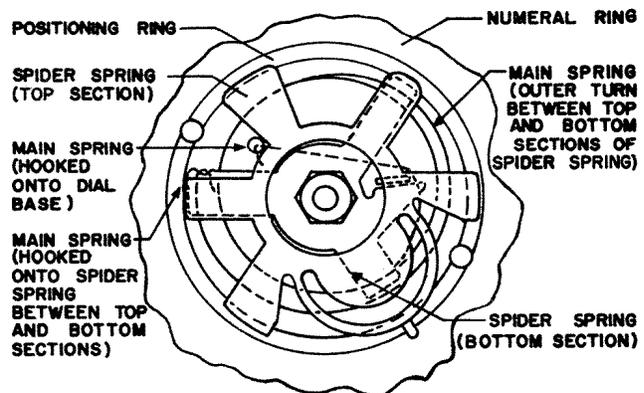

Fig. 4 MAIN SPRING, SPIDER SPRING AND POSITIONING RING LOCATION
- c: The spider spring is shaped so that a separate cam casting is not necessary. The main spring is hooked over the three tabs on the rim of the spider spring then the spider spring is rotated, to tension the main spring, and pressed over the flatted end of the main shaft. See Fig. 4; also paragraphs 3.3d and e of sub-section M2A-DLS/GEN.
- d: A positioning ring is fitted in the center of the reflector ring in order to locate the numeral ring correctly. The location of the positioning ring is indicated in Fig. 4.